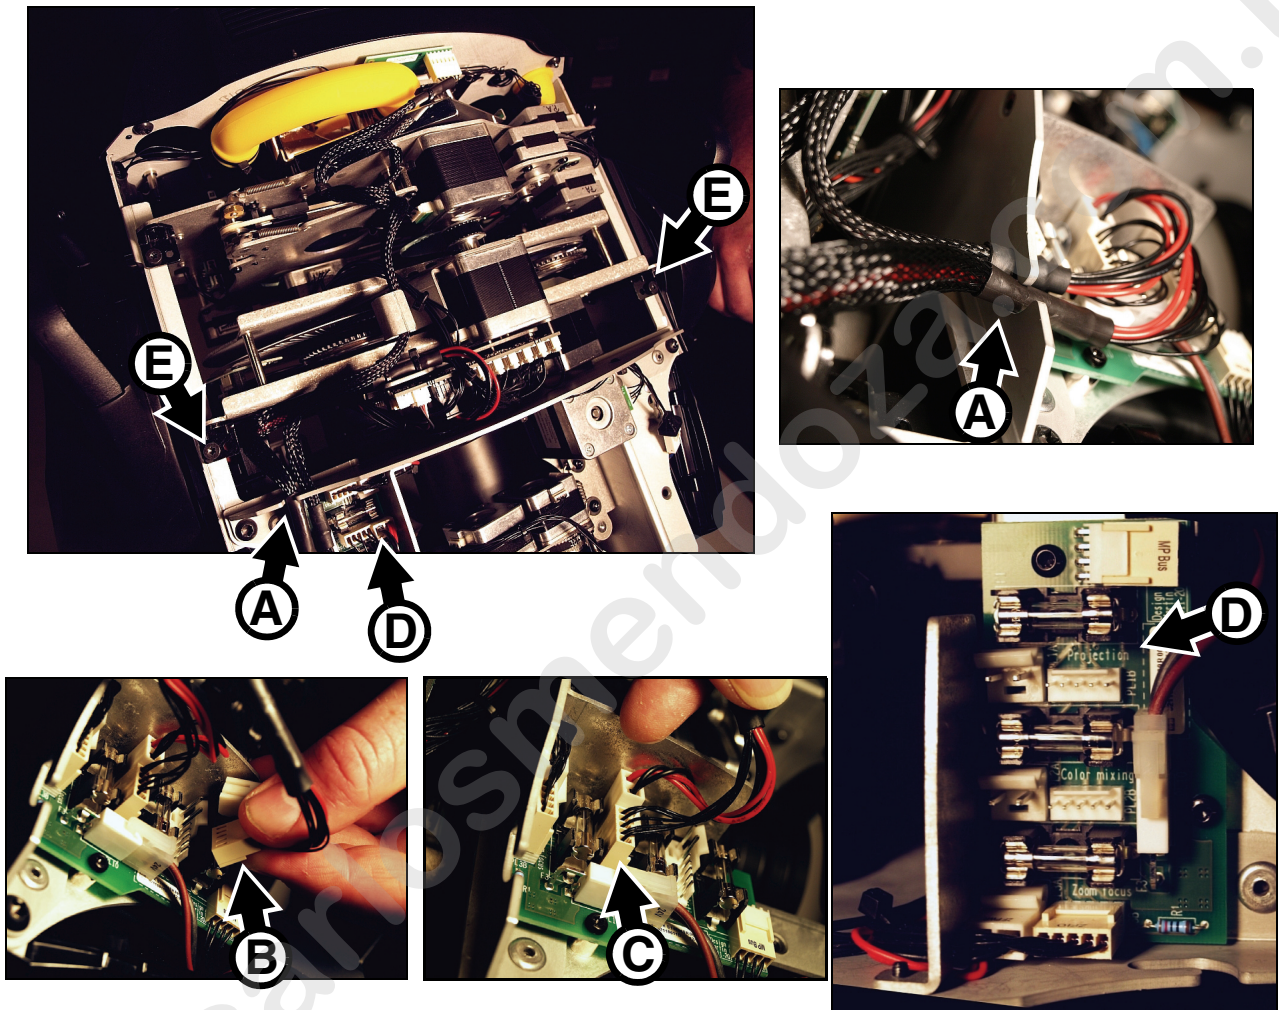

Figure 24: Projection module disconnection
3. See Figure 24. Unhook the projection and color mixing module wiresets from their cutout **A** in the zoom/focus module chassis and unplug the two projection module connectors **B** and two color mixing module connectors **C** from their PCB **D**. Note that the PCB is marked with connector names.